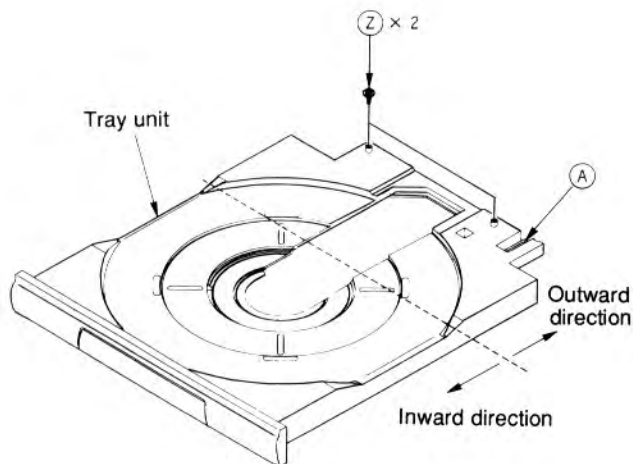
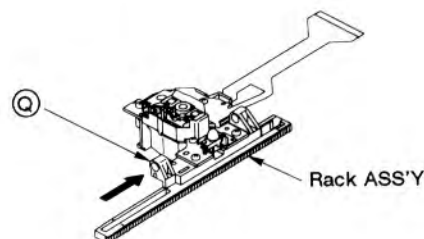

Fig. 2-1
Fig. 2-3
1. Remove the two fixing screws  $\textcircled{Z}$  (Fig. 2-1).
3. Pull out the tray unit while pressing the hook  $\textcircled{A}$  (Fig. 2-1), located on the rear right side of the tray unit, to the left.
2. Make sure that the position of the lens in the pickup assembly is such that the lens stops outside the position indicated by the dotted line in Fig. 2-1.
When the lens stops inside the dotted line, slowly press the  $\textcircled{Q}$  portion of the rack assembly (Fig. 2-3) to move the lens in the pickup assembly until the lens is outside the position indicated by the dotted line in Fig. 2-1.
3. Slowly press the (Q) portion of the rack assembly (Fig. 2-3) to move the lens in the pickup assembly until the lens is outside the position indicated by the dotted line in Fig. 2-1.